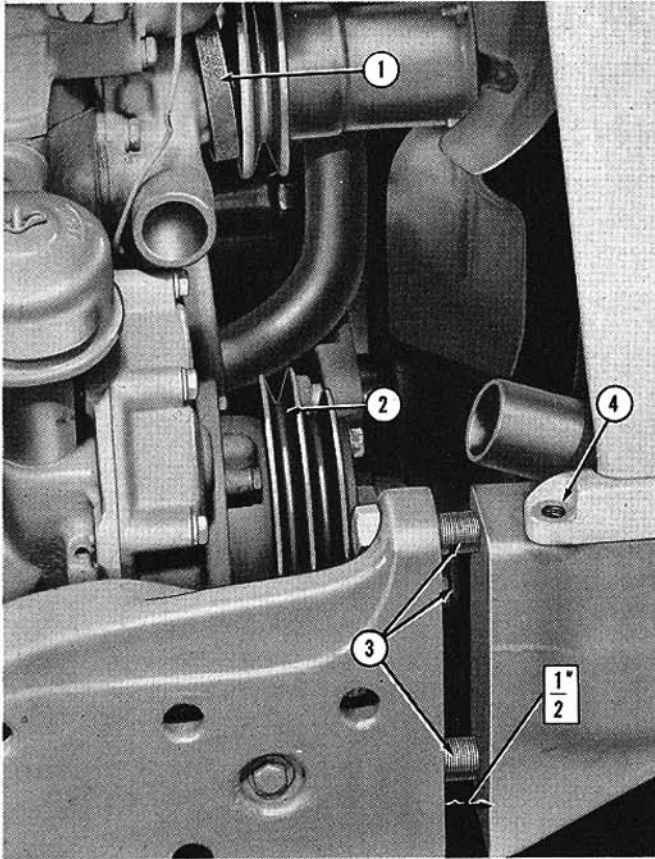

Figure 1
engage the fan belt from the crankshaft pulley and position as shown at (1), Figure 1.
5. Remove the radiator grille to facilitate movement of the pedestal and remove the four Philips head screws (4), Figure 1, which hold the side panels to the pedestal.
2. Remove the six nuts from the pedestal to side rail bolts (3), Figure 1, and move the pedestal forward $\frac{1}{2}$ " as shown, to provide installation clearance for the two sheave pulley as follows:
- a. Install the new pulley (2), Figure 1, as shown, along with the conventional hub, using the four new $\frac{5}{16}$ -14 x $\frac{3}{4}$ " hex head bolts provided. Reinstall the crankshaft bolt and flat washer.